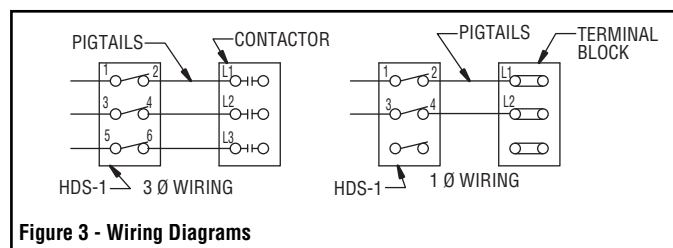

Figure 3 - Wiring Diagrams
1. For easier wiring, it is recommended that the pigtail leads from the disconnect switch be wired to the matching terminals of the contactor or terminal block. It is also suggested that the service entrance wiring be done at this time, terminal 1 and 3 for 1Ø and terminals 1, 3 and 5 for 3Ø (see Figure 3).